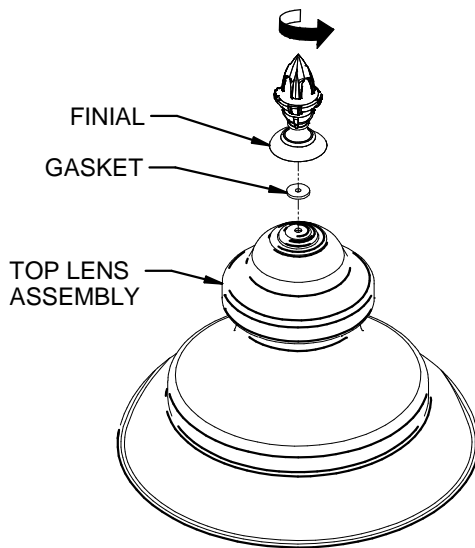

FIG. 1-1
1. REMOVE FINIAL BY TURNING IT COUNTER CLOCKWISE. (FIG. 1-1)
2. REMOVE GASKET AND TOP LENS ASSEMBLY. DO NOT DISCARD. (FIG. 1-1)